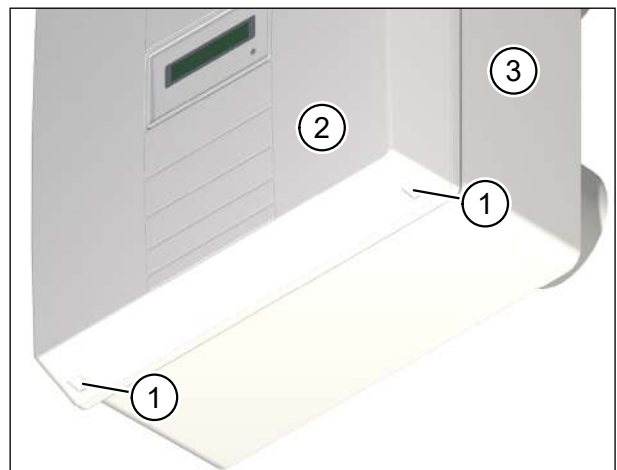

Fig. 4: Remove unit cover from the ventilation unit and clean
- ▶ Using both thumbs, press the two latches (item 1 in Fig. 4) on the bottom of the ventilation unit. The unit cover (item 2 in Fig. 4) will come away.
- ▶ At the same time, push your index fingers into the gap between the unit cover and housing (item 3 in Fig. 4), and lift the unit cover up and away from the housing.